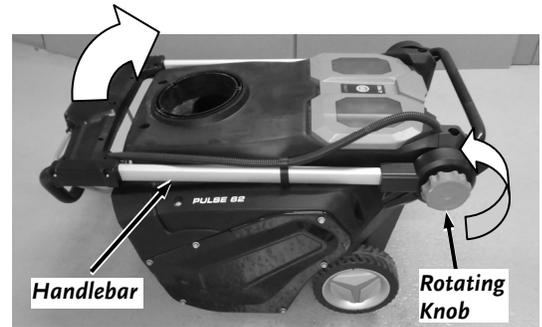

Figure 4
2. Lift the Handlebar Assembly up and back to the Operating Position (**Figure 4**).